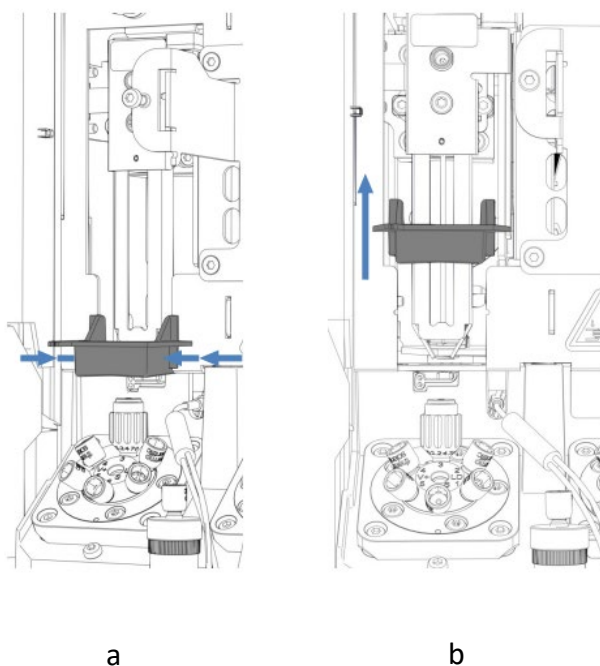

Figure 45: Removing the insulation cover mounting bracket: First squeeze the bracket on each side (a) and then slide upwards (b)
- Squeeze the insulation cover mounting bracket and push it upward to remove it (Figure 45).